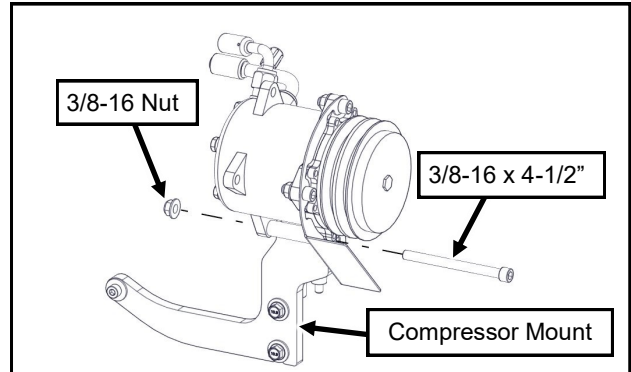

Fig. 2.11a (Install compressor)
**2.11** To install the compressor, run hoses from the left to right side of the vehicle over the engine. Install the preassembled compressor to the compressor and tensioner mounts. See Figures 2.11a and 2.11b. Leave hardware loose.